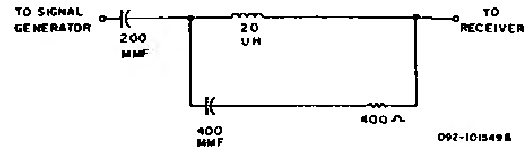

Figure 3. EIA Dummy Antenna
- Use a standard EIA dummy antenna as shown in figure 3.